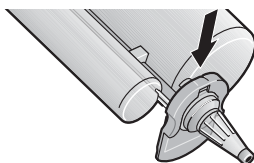

Fig. 3
3. Secure the mixing tip by sliding the locking mechanism into the locked position (Fig. 3).